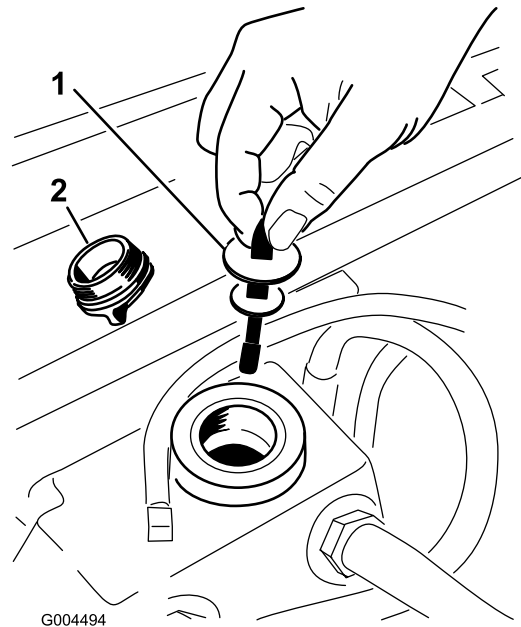

Figure 56
5. Remove the hydraulic fill cap from the filler neck (Figure 56).
6. Remove the dipstick and wipe it with a clean rag (Figure 56).
7. Place the dipstick into the filler neck; then remove it and check the level of fluid (Figure 56).